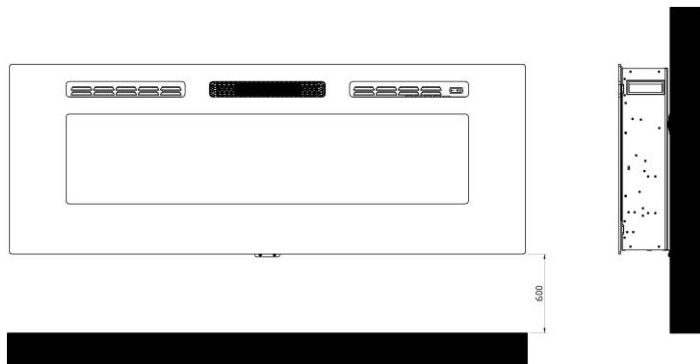
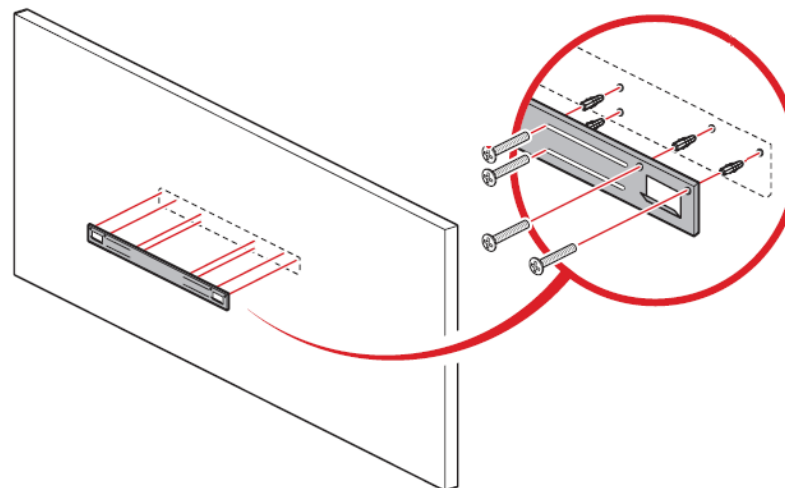

Fig.1
Fig.5
Installation (see Fig1 ~ Fig 5)
- A distance of 600mm from the bottom of the heater to the floor is recommended for optimum viewing of the fuel bed; see Fig.1 below for recommended fixing dimensions.
- Insert eight 4*30mm wall anchors into holes, then attach the mounting bracket to the wall with eight 4*30 screws.Fig.5
- Fix the tempered glass with 2pcs of 4*8mm screws provided.(Fig.5)